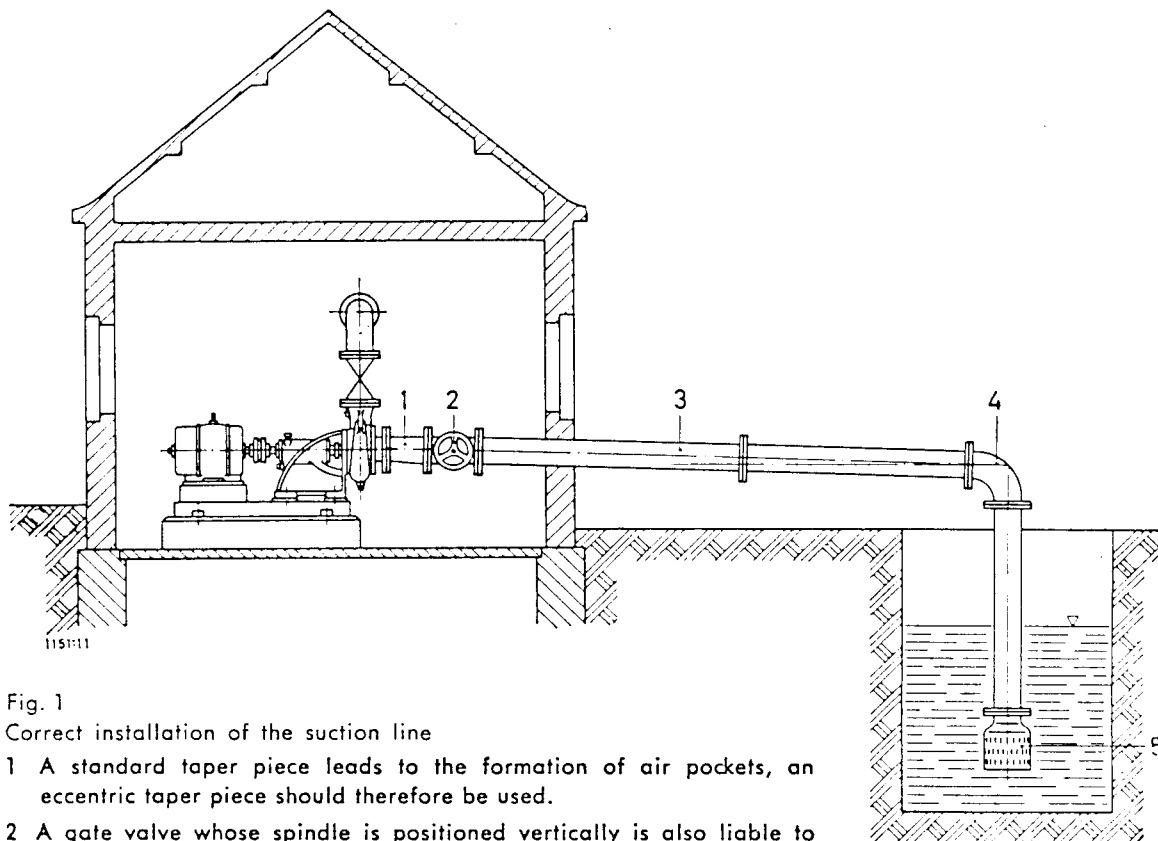

Fig. 1
Suction branches and suction lines of different nominal bores should be connected by means of eccentric taper piece if the suction line is horizontal (fig. 1, item 1).